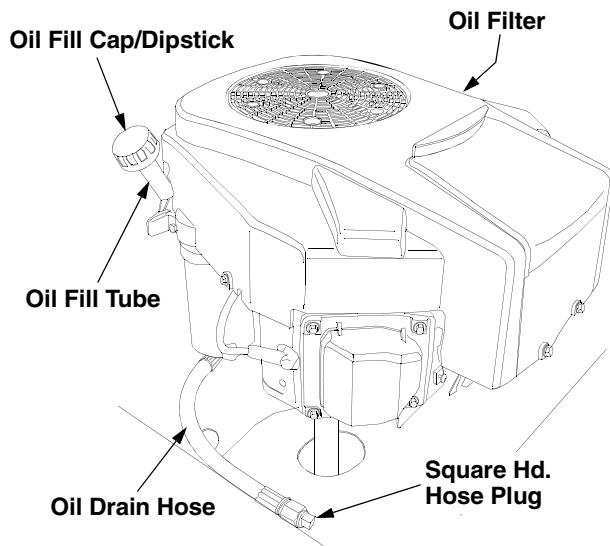

Figure 22
- Locate the oil drain hose on the left side of the engine. Refer to Figure 22.
- While holding the free end of the oil drain hose over the oil collection container, unscrew the square head hose plug from the end of the hose. See Figure 22. Drain the engine oil into the collection container.